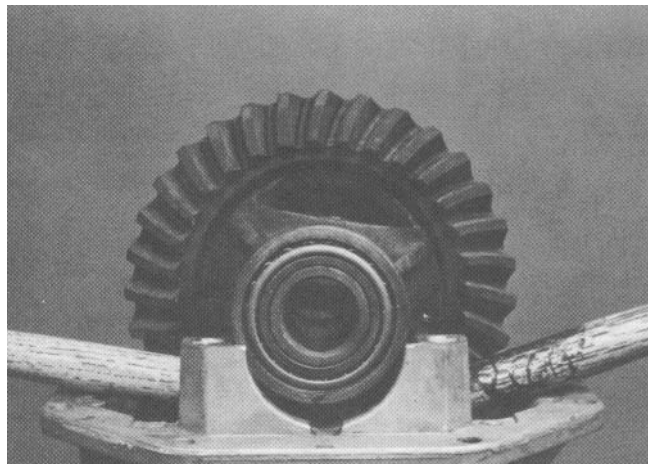

Figure 25
4. To remove the differential assembly, place two wooden devices (i.e. hammer handles) under the differential case and pry firmly upward. Mark the bearing cups and cones, they must be reinstalled in matched sets (Fig. 25).